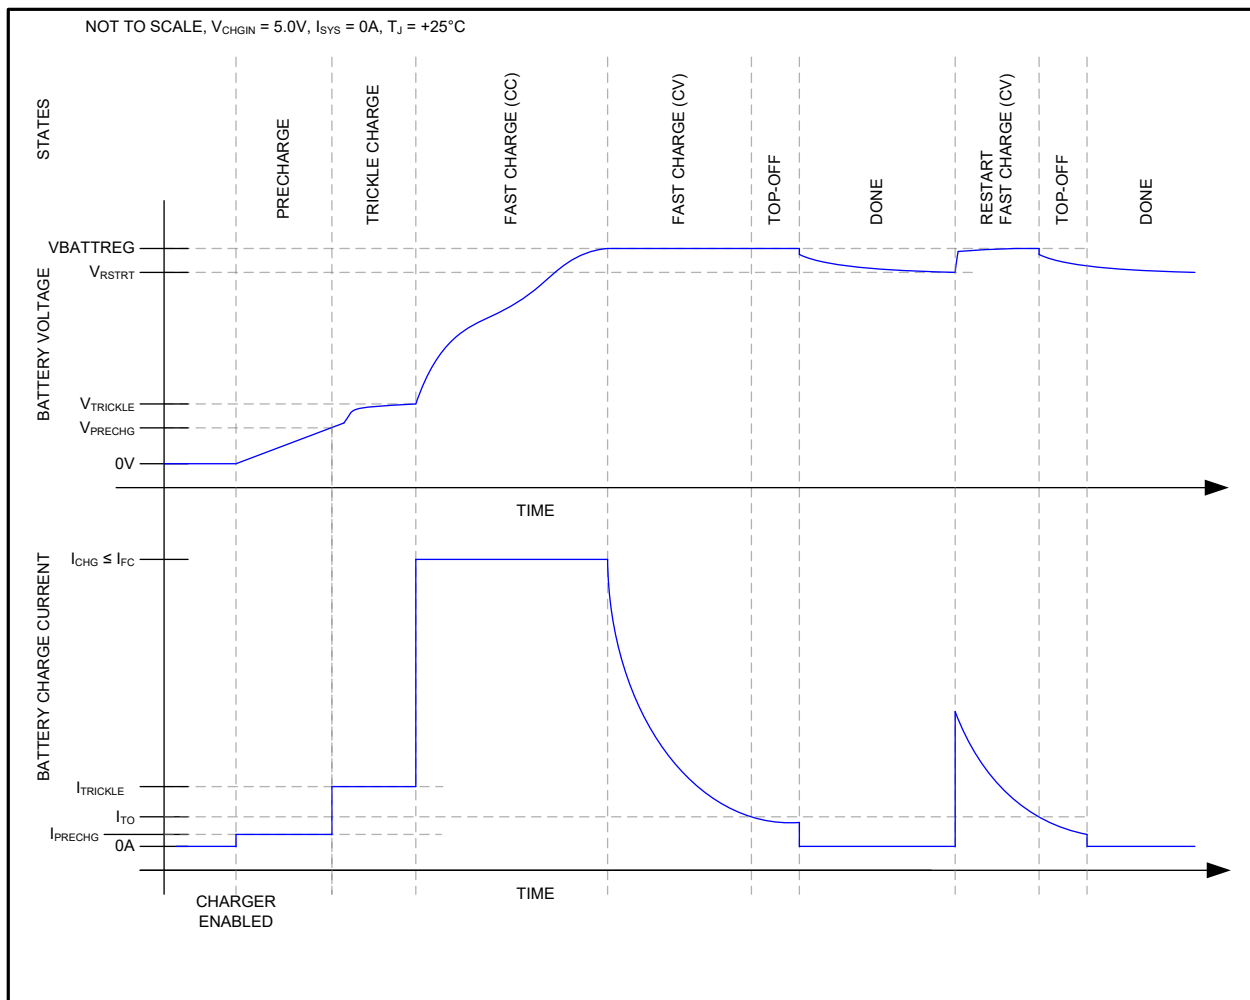
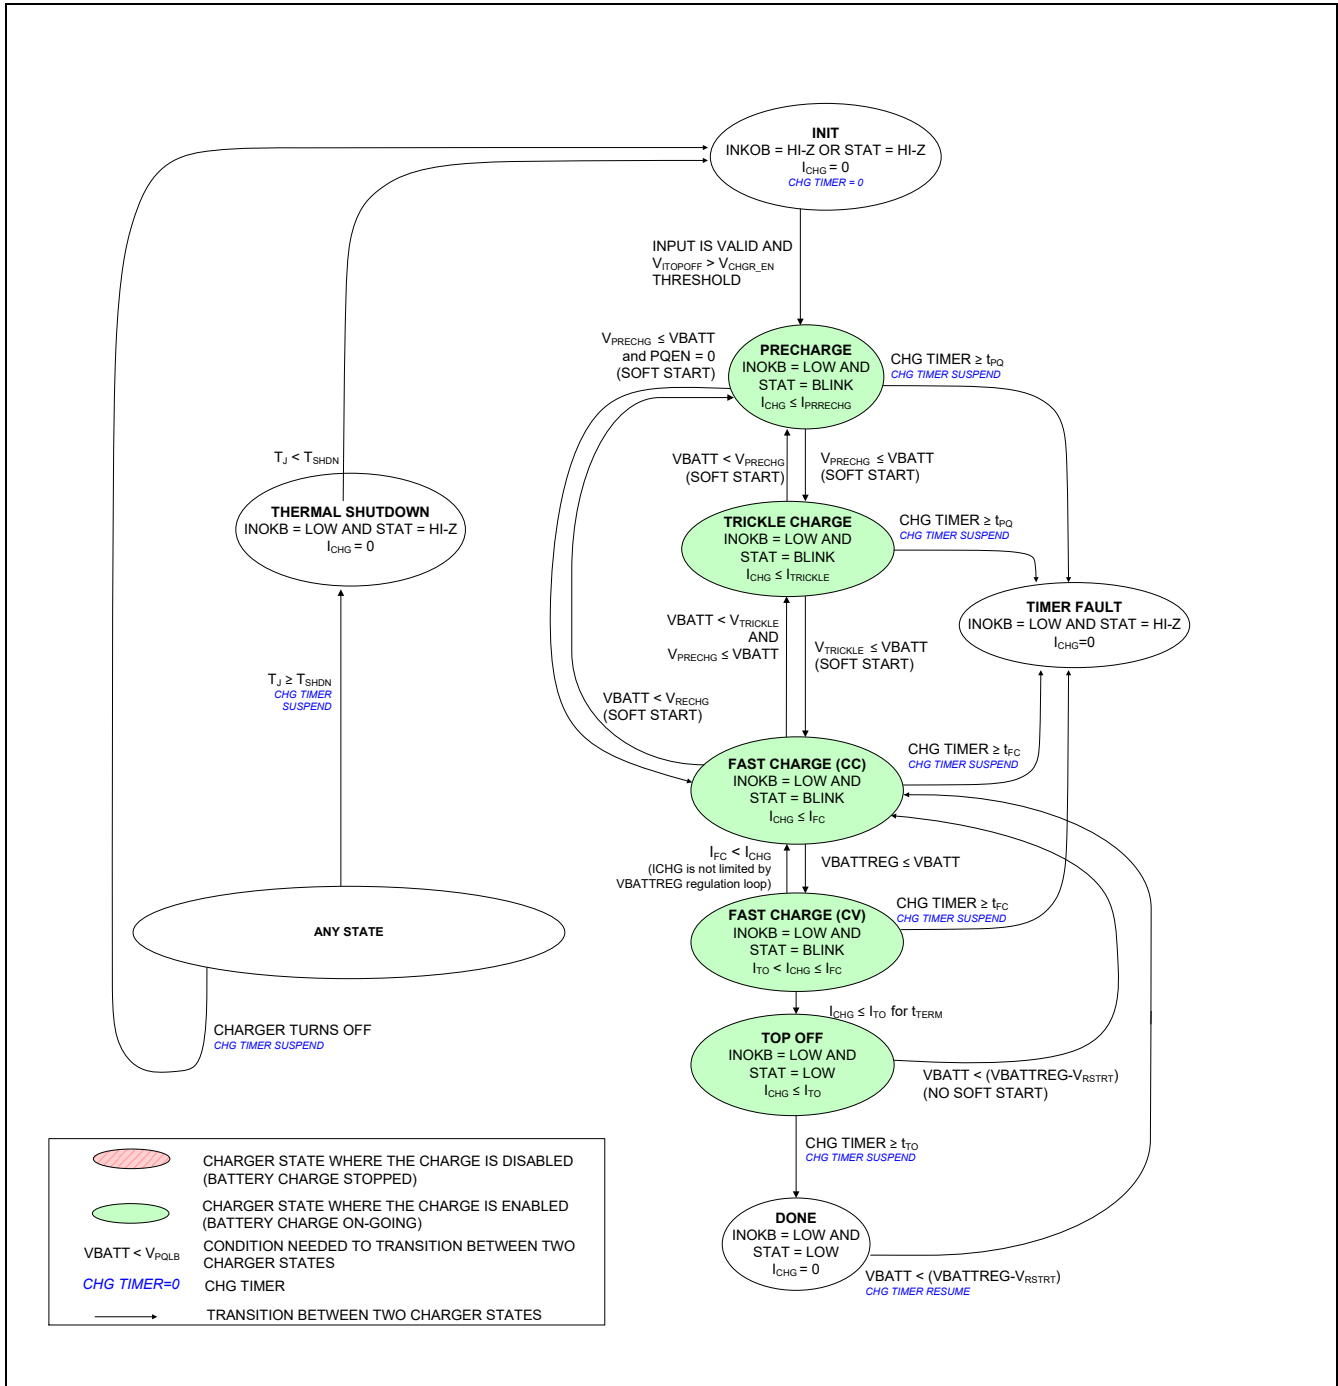

Figure 5. Li+/Li-Poly Charge Profile
Figure 6. Li+/Li-Poly Charger State Diagram
The MAX77787J utilizes several charging states to safely and quickly charge Li+/Li-Poly batteries as shown in Figure 5 and Figure 6. Figure 5 shows an exaggerated view of the Li+/Li-Poly battery progressing through the following charge states when there is no system load and the die and battery is close to room temperature: precharge → trickle → fast-charge → top-off → done.
From any state shown in Figure 6 except thermal shutdown, the “INIT” state is entered whenever the charger inputs CHGIN is invalid or the charger timer is suspended.
As shown in Figure 6, the pre-charge state occurs when the main battery voltage is less than V_{PRECHG} . In the pre-charge state, the charge current into the battery is I_{PRECHG} .
As shown in Figure 6, the trickle charge state occurs when $V_{BATT} > V_{PRECHG}$ and $V_{BATT} < V_{TRICKLE}$.
As shown in Figure 6, the fast-charge constant current (CC) state occurs when the main-battery voltage is greater than the trickle threshold and less than the battery regulation threshold ($V_{TRICKLE} < V_{BATT} < V_{BATTREG}$).
As shown in Figure 6, the fast-charge constant voltage (CV) state occurs when the battery voltage rises to $V_{BATTREG}$ from the fast-charge CC state.
In the fast-charge CV state, the battery charger maintains $V_{BATTREG}$ across the battery and the charge current is less than or equal to I_{FC} . As shown in Figure 5, charger current decreases exponentially in this state as the battery becomes fully charged.
As shown in Figure 6, the top-off state can only be entered from the fast-charge CV state when the charger current decreases below I_{TO} for t_{TERM} . In the top-off state, the battery charger tries to maintain $V_{BATTREG}$ across the battery, and typically the charge current is less than or equal to I_{TO} .
As shown in Figure 6, the battery charger enters its done state after the charger has been in the top-off state for t_{TO} .
The battery charger provides both a charge timer to ensure safe charging. As shown in Figure 6, the charge timer prevents the battery from charging indefinitely. The time that the charger is allowed to remain in each of its prequalification states is t_{PQ} . The time that the charger is allowed to remain in the fast-charge CC and CV states is t_{FC} . Finally, the time that the charger is in the top-off state is t_{TO} . Upon entering the timer fault state, STAT becomes Hi-Z.
In the timer fault state, the charger is off. The charger input can be removed and re-inserted to exit the timer fault state (see the “any state” bubble in the lower left of Figure 6).
As shown in Figure 6, the thermal shutdown state occurs when the battery charger is in any state and the junction temperature (T_J) exceeds the device’s thermal shutdown threshold (T_{SHDN}). When T_J is close to T_{REG} , the charger folds back the input current limit to 0A so that the charger and inputs are effectively off.